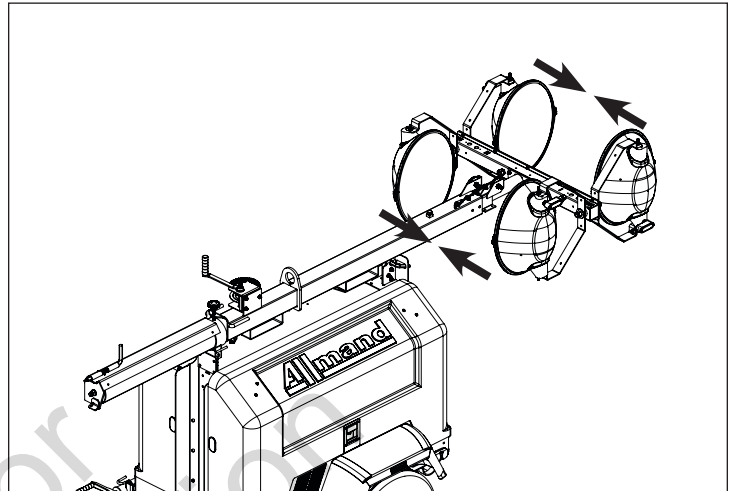

Figure 2
3. Reposition the light fixtures for trairling / transport by rotating the lamp yoke perpendicular to the light bar. Face the light fixtures toward the center of the trailer. See Figure 2.